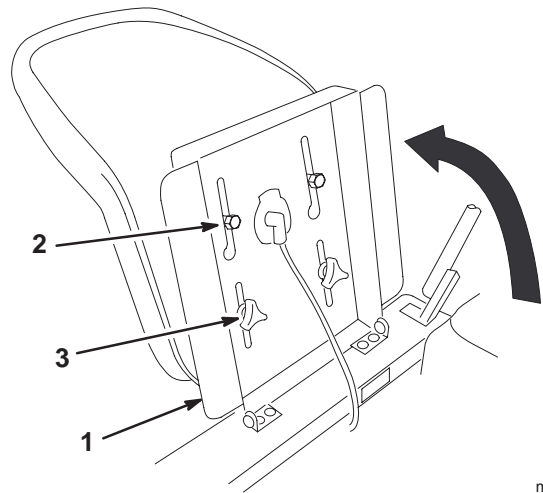

Figure 5
- Raise the seat support on the machine (Fig. 5).
- Slide the shoulder bolts on the bottom of the seat into the slots on the seat support (Fig. 5). Secure the seat to the seat support with the flat washers and knobs removed in step 2 (Fig. 5).